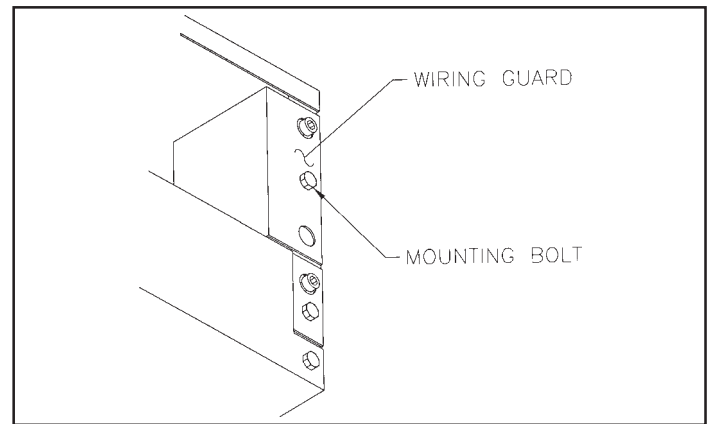

FIGURE 12 - Wiring Guard
F. A wiring guard, **See Figure 12**, is mounted on the right of the air intake of the unit. The wiring guard is reversible, so it may be mounted on either side of the unit. Remove the 1/4" mounting bolt. Clearance holes enable the wiring guard to be removed without disturbing the 1/4" shoulder bolts.
K. Reinstall the wiring guard so that it covers all of the wires used to make the connections to the terminal strip. Reinstall the 1/4" mounting bolt. **See Figure 12.**